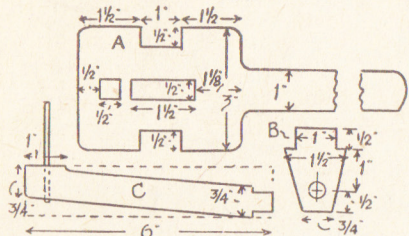

Fig. 1—Details of main parts
Some $\frac{1}{2}$ in. thick deal is suggested for making the body part, to make it strong enough to stand up to plenty of work, as it is likely to get at the hands of a healthy child. Parts of the body are shown, with dimensions, in Fig. 1. The top board (A) should be carefully marked out from a length of wood, long enough to include it and a suitable handle.